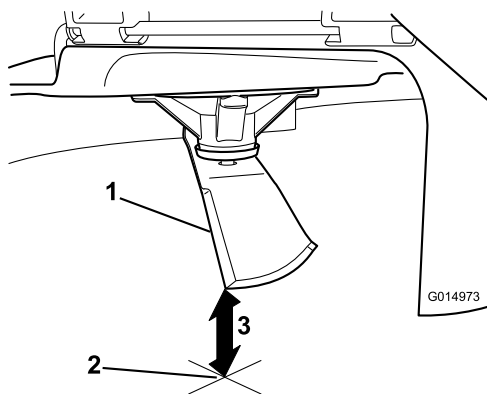

Figure 51
5. Measure from the tip of the blade to the flat surface (Figure 51).